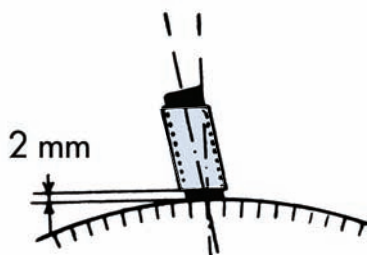

FIG. 2
- Adjust the distance between brush-holder and commutator to range from 2.5 to 3 mm (Fig. 2).